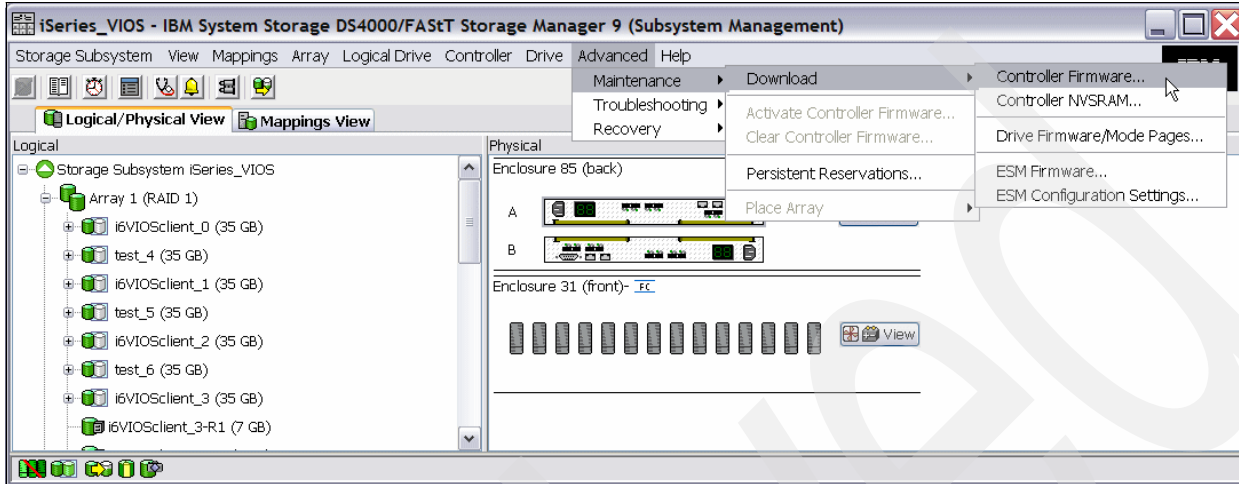

Figure 9-8 Subsystem Management window: Controller firmware update on DS4000 and DS5000
1. Open the Subsystem Management window for the DS4000 power supply fan unit that you want to upgrade. To download the firmware select **Advanced** → **Maintenance** → **Download** → **Controller Firmware**, as shown in Figure 9-8.